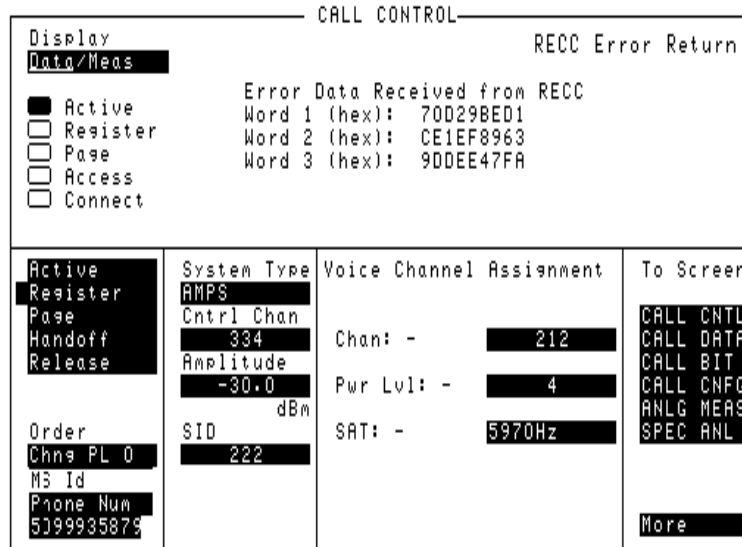

Figure 19 CALL CONTROL Screen with Decoding Error Message Display
- Select **Data** to display information received from the mobile station on the reverse control channel or reverse voice channel. If the data message(s) received from the mobile station can be correctly decoded, the decoded message contents are displayed. If the data messages cannot be correctly decoded, the raw data message bits are displayed in hexadecimal format. **Figure 19 on page 127** shows the layout of the CALL CONTROL screen when a decoding error has occurred.